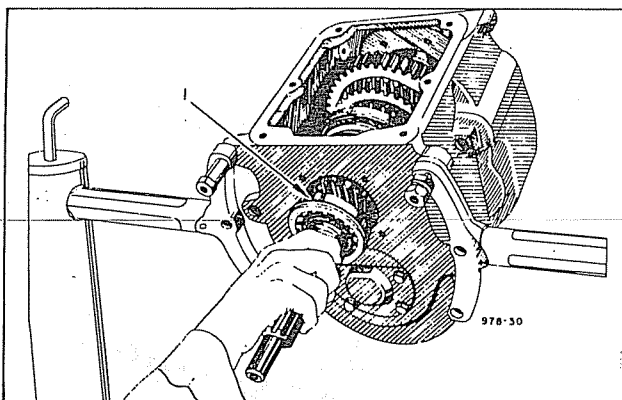
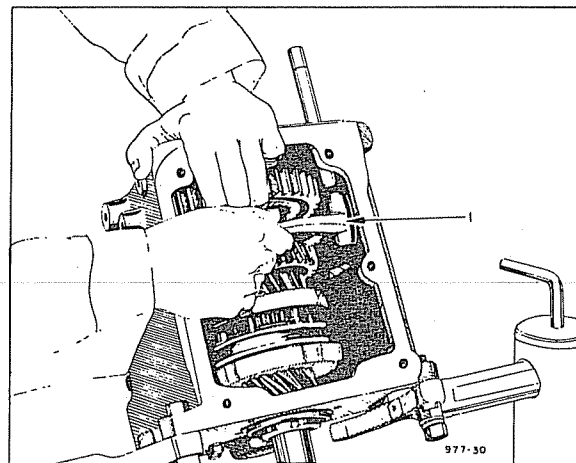

Fig. 14—Removing Drive Pinion and Bearing.
Fig. 15—Removing Reverse Gear Fork.
- (3) Remove the transmission cover and shifter assembly.
- (4) Remove the drive pinion bearing retainer, drive pinion and bearing (Figure 14).
- (5) Remove the speedometer drive pinion.
- (6) Remove the brake band support, oil seal and speedometer drive gear.
- (7) Remove the reverse gear fork by driving the fork rail to the rear and lifting out the fork. (Figure 15).